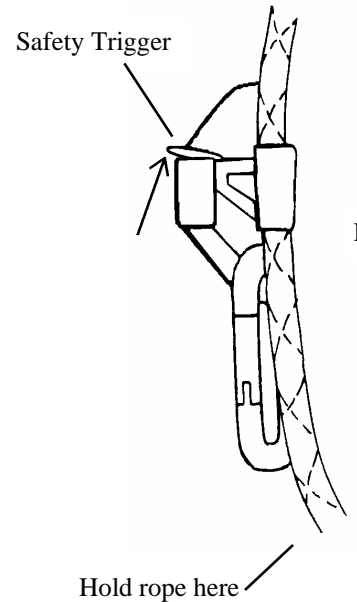

Figure 4
3. To move the Height Adjuster up, hold pressure on the rope below the body and push up on the Height Adjuster to the desired height (See figure 4).
4. To move the Height Adjuster down, release the lock on the cam by holding the rope below the Height Adjuster, and pushing up on the safety trigger while putting upward pressure on the Height Adjuster. This will unlock the cam and allow you to move the Height Adjuster to the desired height (See figure 4).